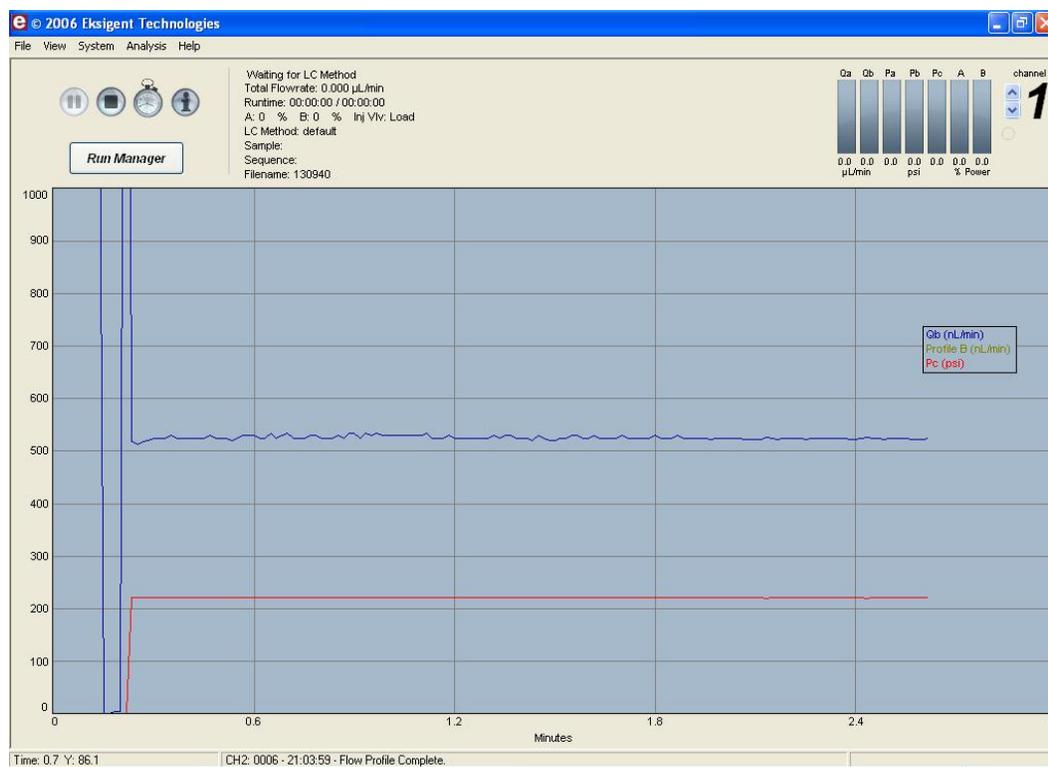

Figure 5-1. Acquisition Window
After initialization, the Control software's **Acquisition Window** of the Control software will be displayed (Figure 5-1).
- step 1* If not already in the Run Manager, click the **Run Manager** button located on the Eksigent Control Software's **Acquisition Window**. (Figure 5-1).